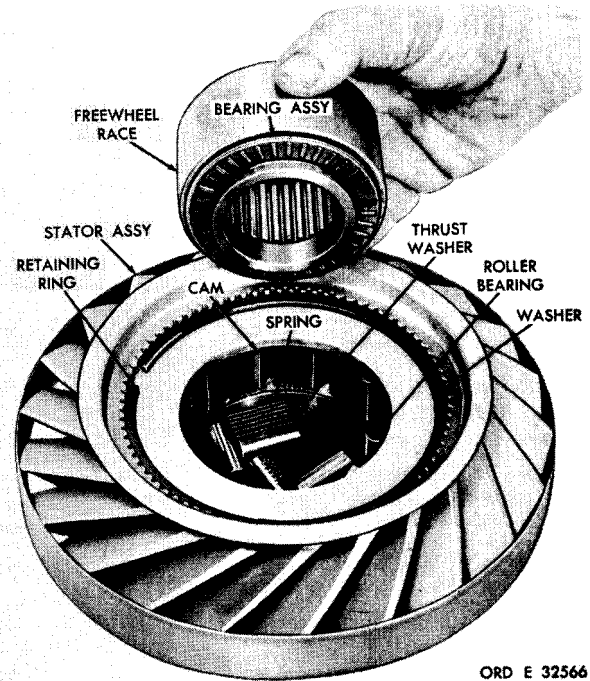

Figure 147. Removing stator freewheel race and thrust bearing assembly from stator
(1) Rotating the stator freewheel race in a clockwise direction, remove it from the stator assembly (fig. 147).
(2) Remove 12 stator roller bearings and springs from the stator (fig. 147).
(3) Remove the roller thrust bearing assembly from the freewheel race. Remove roller thrust washer from the stator (fig. 147). If either bearing or thrust washer is damaged, replace both parts.
(4) Remove the front and rear retaining rings, two large thrust washers and two small thrust washers from the stator assembly. Mark the stator cam and stator assembly for reference in reassembly. Press out the cam.